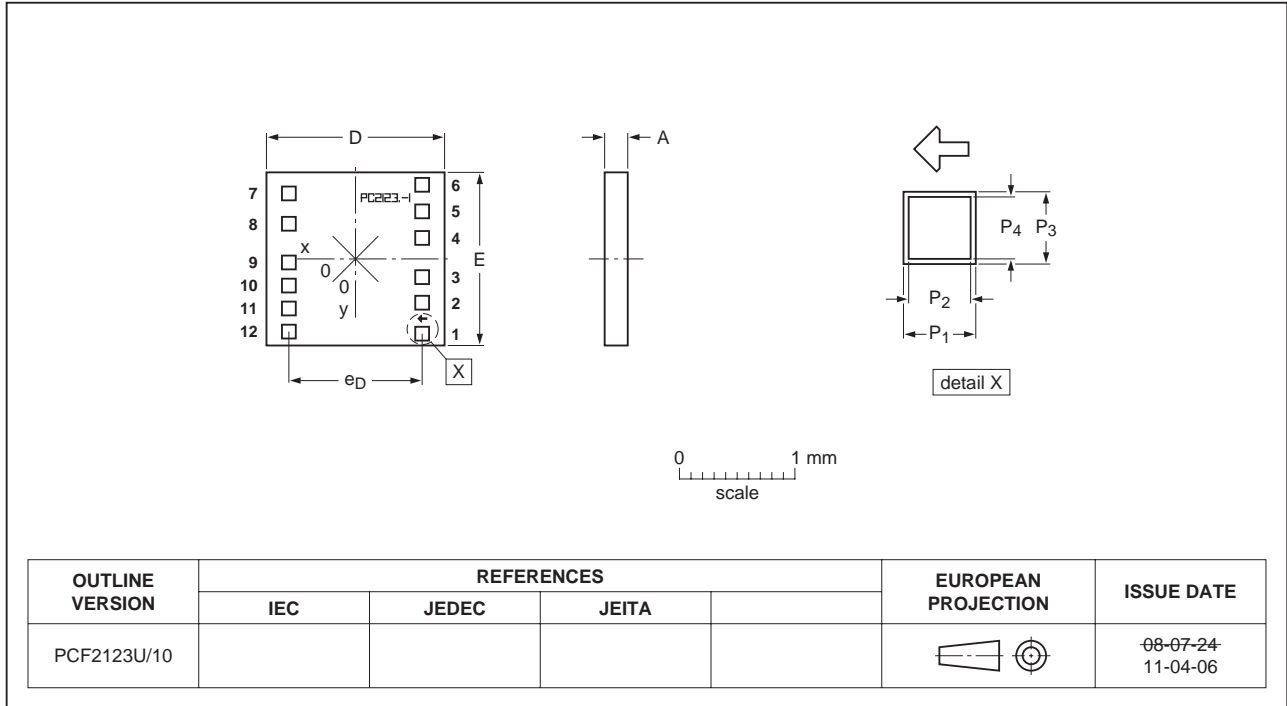
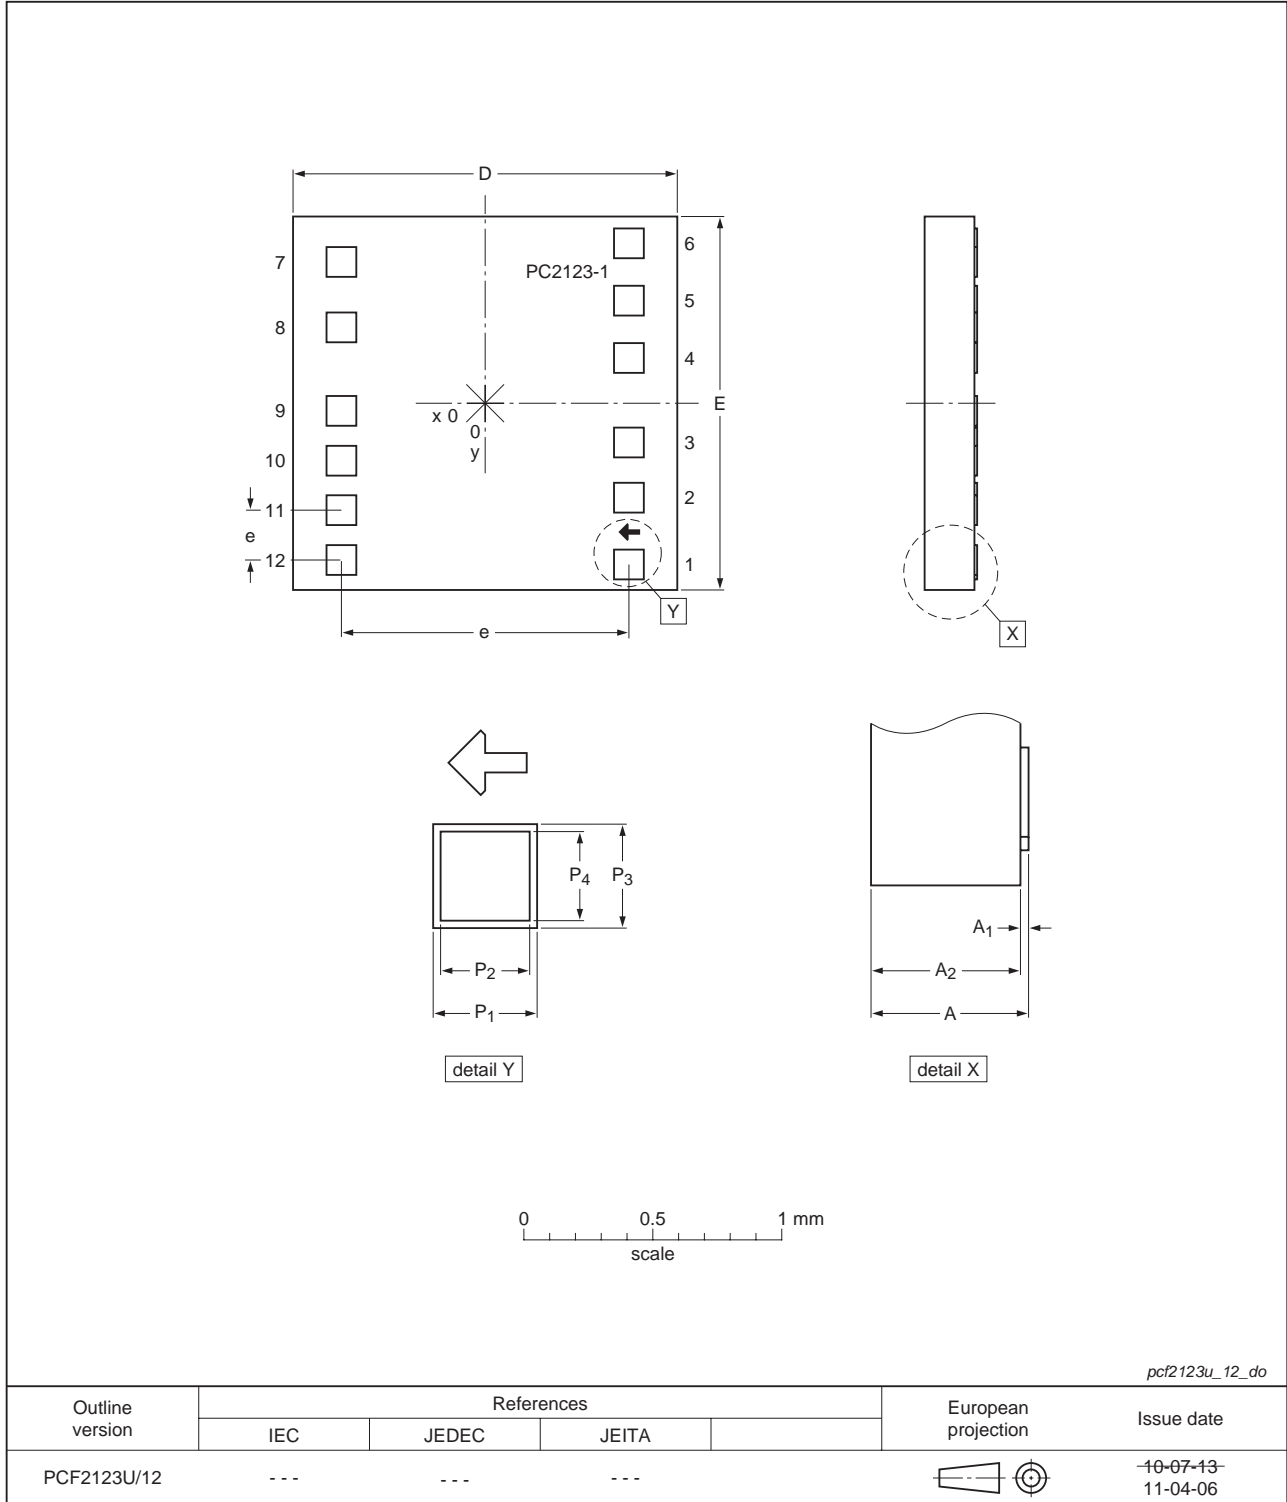

Fig 33. Bare die outline PCF2123U/10 of PCF2123U/5GA/1 and PCF2123U/10AA/1 (for dimensions see Table 46)
Fig 34. Bare die outline PCF2123U/12 of PCF2123U/12AA/1 and PCF2123U/12HA/1 (for dimensions see Table 47)
[3] P₁ and P₃: pad size.[4] P₂ and P₄: bump size.**Table 48. Bump locations of all PCF2123U types**All x/y coordinates represent the position of the center of each pad with respect to the center (x/y = 0) of the chip; see Figure 33 and Figure 34.
- [1] The x/y coordinates of the alignment mark location represent the position of the REF point (see Figure 35) with respect to the center (x/y = 0) of the chip; see Figure 33 and Figure 34.